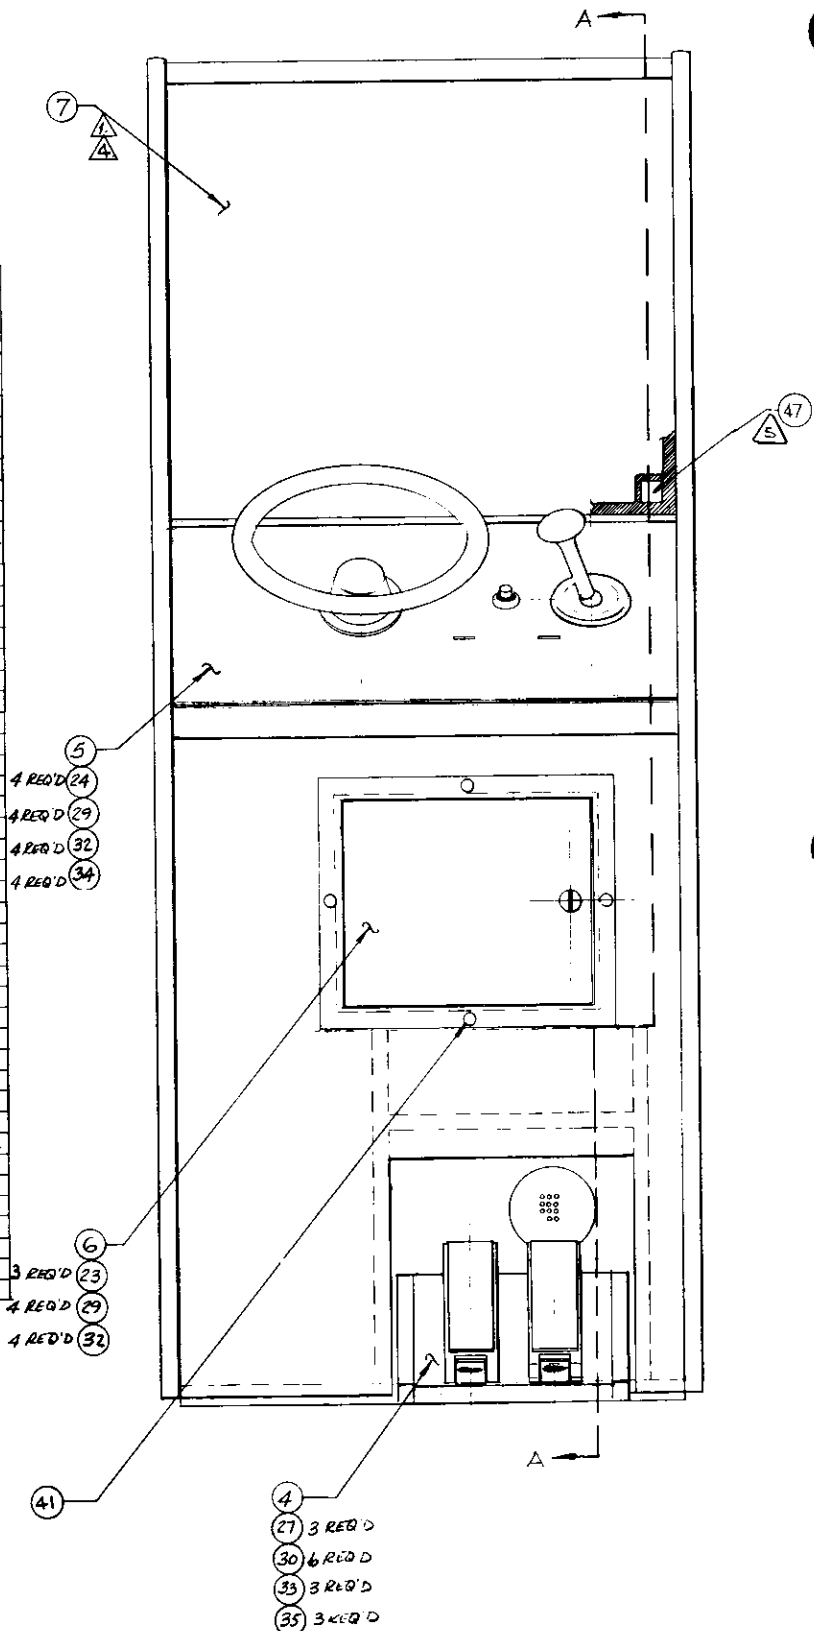

Figure 2. GT-10; Front View
3. THE PEDAL ASSEMBLY: The pedal assembly must be removed to replace the brake and accelerator switches. Reach in the rear door and remove three wing nuts [#35, Fig. 2]. From the front of the machine, grasp the protruding lip of the pedal assembly and pull out the entire unit.